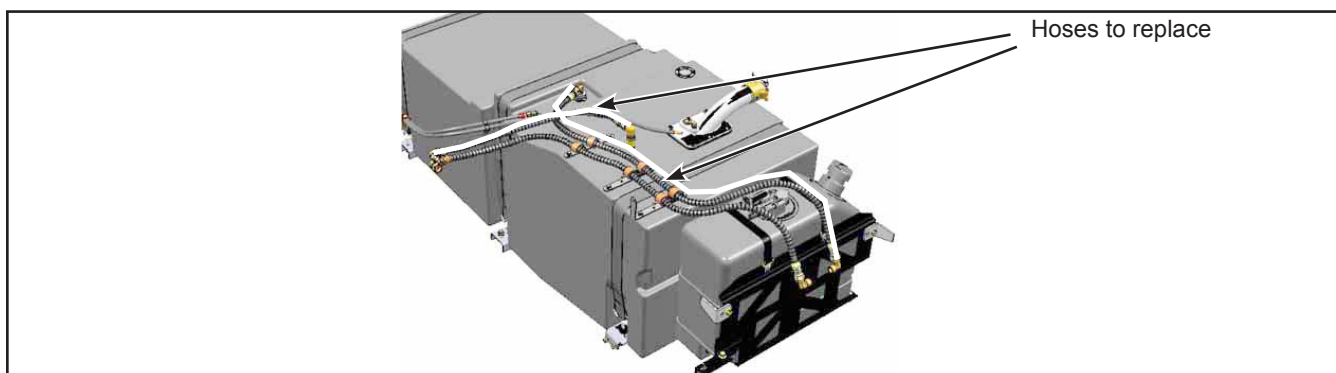

Figure 9 - Hoses to Replace
- 1.14. Remove and dispose of the flexible hose that connects the fuel tank to the fuel filter. See Figure 9.
- 1.15. Remove and dispose of the flexible hose that connects the fuel tank to the engine. See Figure 9.